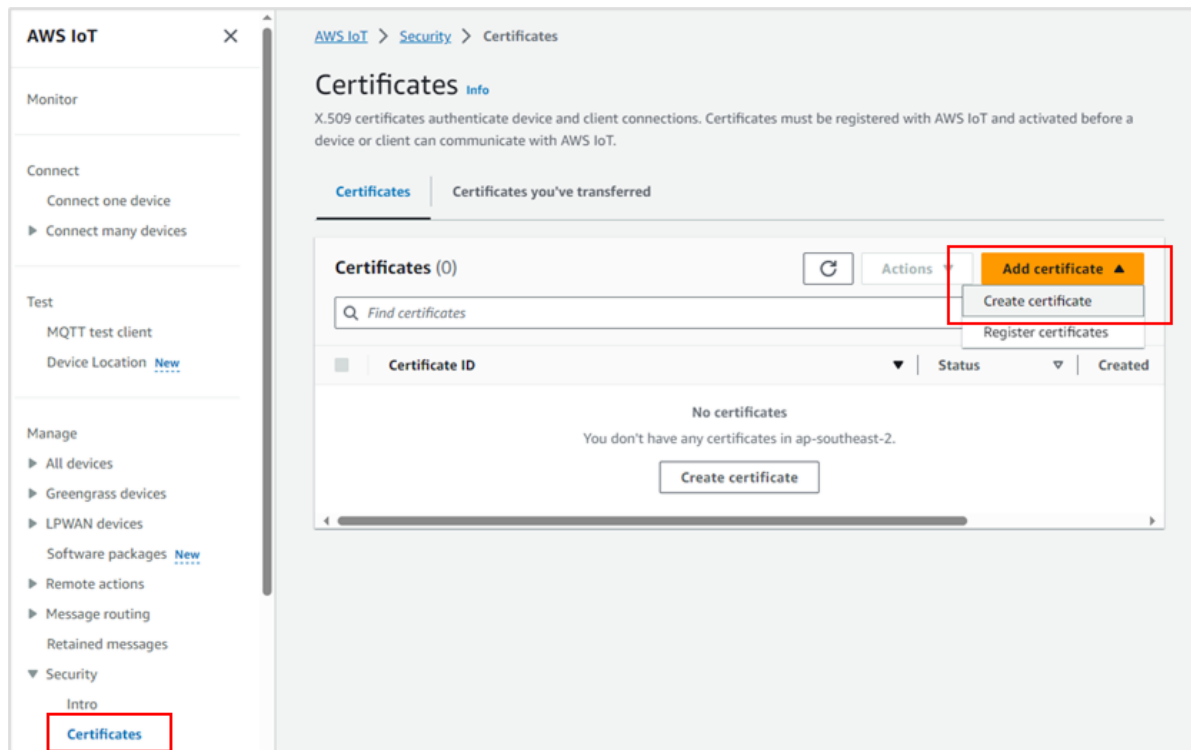

Figure 22. Create certificates
1. On the navigation pane, expand **Security** and click **Certificates**, and then click **Add certificate > Create certificate**, see Figure 22.